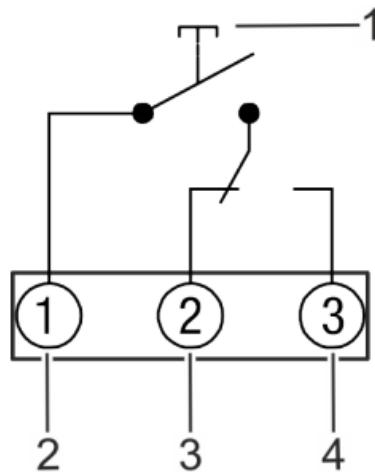

Fig. 3: Wiring diagram
5. Insert the connection wires into the corresponding terminal in accordance with the wiring diagram (Fig. 3) and tighten them.
6. Insert the connection wires into the corresponding terminal in accordance with the wiring diagram (Fig. 3) and tighten them.